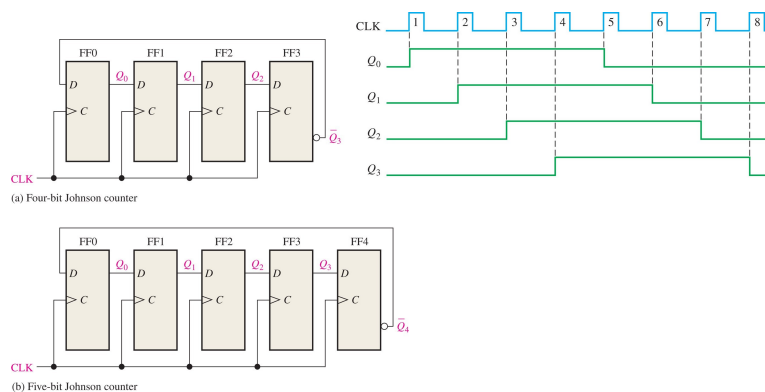

Figure 12: (Left) 4 and 5-bit Johnson counters. (Right) The timing diagram for the 4-bit case.
2. Consider Fig. 12, in which 4 and 5-bit Johnson counters are depicted. (a) Create a circuit based on Fig. 12 called a *combinatoric trigger*. Imagine four digital channels A, B, C, and D, as inputs. The output of the circuit should be True if *any two* of the four channels is True *within 100 ns of each other*. Develop any necessary logic symbols, and use the appropriate clock frequency. The Johnson counter(s) can have any number of bits. Fig.